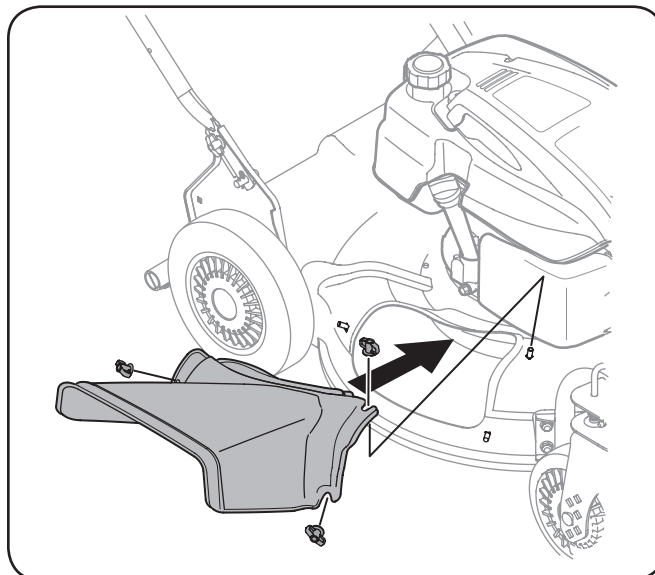

Figure 3-6
2. Attach side discharge chute to unit and secure with the three wing nuts. See Fig. 3-6.